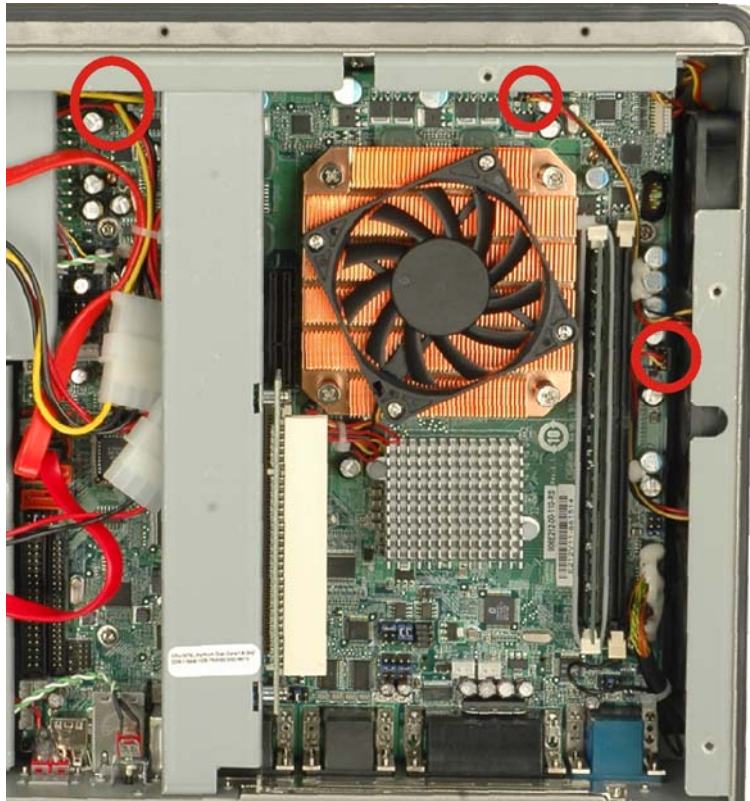

Figure 7-9: System Cooling Fans Motherboard Connector
- Step 3:** Disconnect the system cooling fans from the motherboard (Figure 7-9).